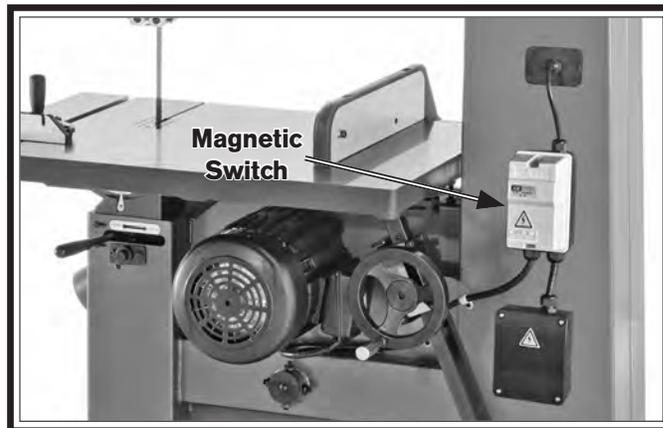

Figure 10. Location of magnetic switch.
- 2. Remove 220V magnetic switch from machine column (see Figure 10) and replace with 440V magnetic switch (refer to wiring diagram on Page 74).**